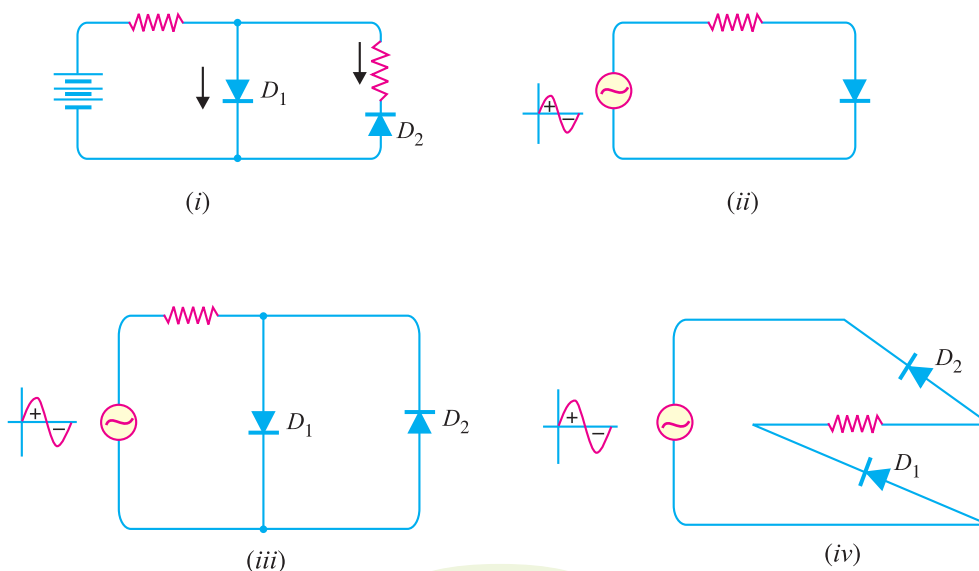

Fig. 6.4
**Example 6.1.** In each diode circuit of Fig. 6.4, find whether the diodes are forward or reverse biased.
(i) Refer to Fig. 6.4 (i). The conventional current coming out of battery flows in the branch circuits. In diode  $D_1$ , the conventional current flows in the direction of arrowhead and hence this diode is forward biased. However, in diode  $D_2$ , the conventional current flows opposite to arrowhead and hence this diode is reverse biased.
(ii) Refer to Fig. 6.4 (ii). During the positive half-cycle of input a.c. voltage, the conventional current flows in the direction of arrowhead and hence diode is forward biased. However, during the negative half-cycle of input a.c. voltage, the diode is reverse biased.
(iii) Refer to Fig. 6.4 (iii). During the positive half-cycle of input a.c. voltage, conventional current flows in the direction of arrowhead in  $D_1$  but it flows opposite to arrowhead in  $D_2$ . Therefore, during positive half-cycle, diode  $D_1$  is forward biased and diode  $D_2$  reverse biased. However, during the negative half-cycle of input a.c. voltage, diode  $D_2$  is forward biased and  $D_1$  is reverse biased.
(iv) Refer to Fig. 6.4 (iv). During the positive half-cycle of input a.c. voltage, both the diodes are reverse biased. However, during the negative half-cycle of input a.c. voltage, both the diodes are forward biased.